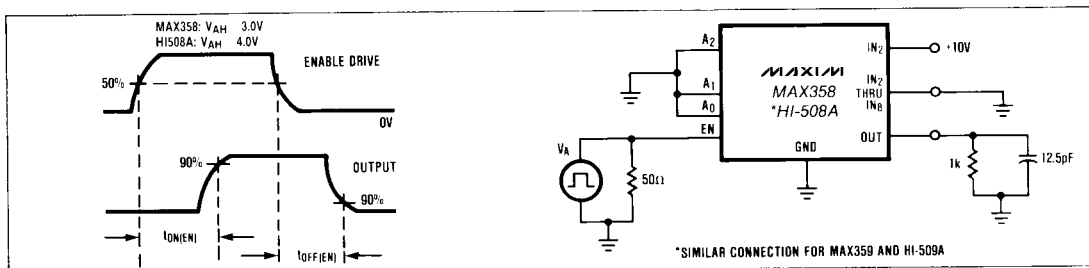

Figure 3. Enable Delay ( $t_{ON(EN)}$ ,  $t_{OFF(EN)}$ )
| Enable Delay (ON)                             | t ON(EN)               | (Figure 3)                                                                                                                                     | +25°CFull                 |                 | 300        | 5001000       |                                    | 300        | 1000              | ns       |
| Enable Delay (OFF)                            | t OFF(EN)              | (Figure 3)                                                                                                                                     | +25°CFull                 |                 | 300        | 5001000       |                                    | 300        | 1000              | ns       |